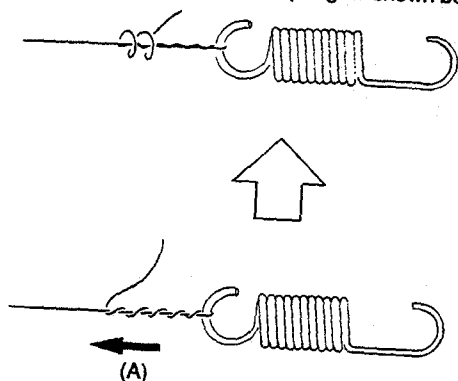

Fig. 8-14
As shown in Fig. 8-14, wind corona wire five turns in direction of arrow (A), then wind two turns in the opposite direction of arrow (A).
- Use tweezers to hang spring ① on screw (B1).